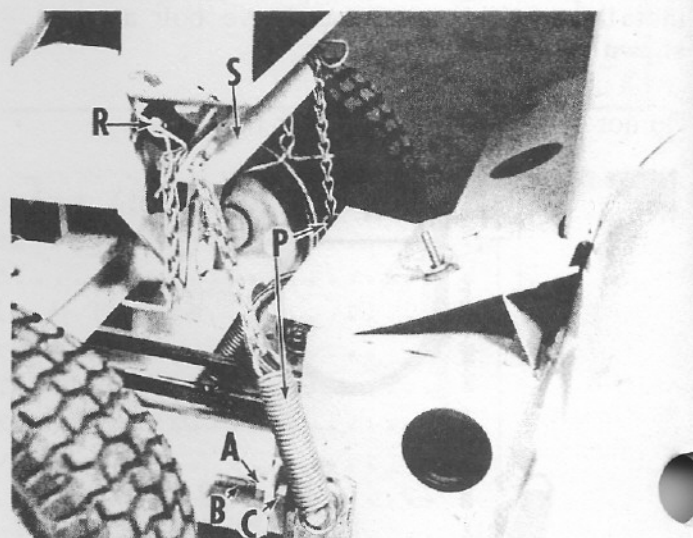

Fig. 20
INSTALLATION OF LIFT ASSIST SPRINGS Fig. 20
bracket (S) under hood threading rod through bracket and hood mounts securing with cotter pins on both sides. Thread toggle chain through angle bracket and attach it to lift spring (P) as shown in (Fig.20). Repeat procedure for opposite side of tractor. Raise Snow Thrower with tractor lift lever to highest position. Then pull toggle chain through angle bracket exerting slight pressure on the lift spring and lock into position by inserting hair cotter pin in lift chain.
Adjustment procedure No. 1: (Fig. 20)